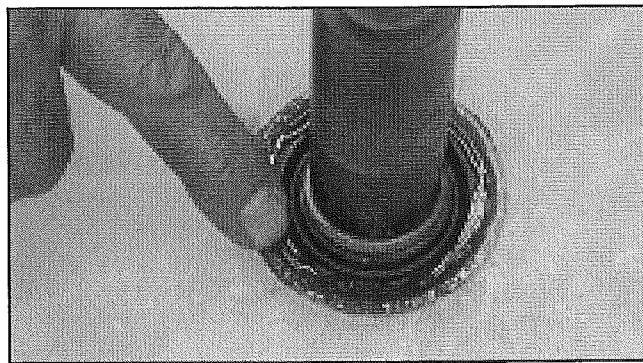

FIGURE 19
31. Push Tub Seal into place using the Seal Press Tool, and hammer until it bottoms out. Add a bead of Pliobond Adhesive to top edge of seal and tub (spread out with finger). See *Figure 19*.